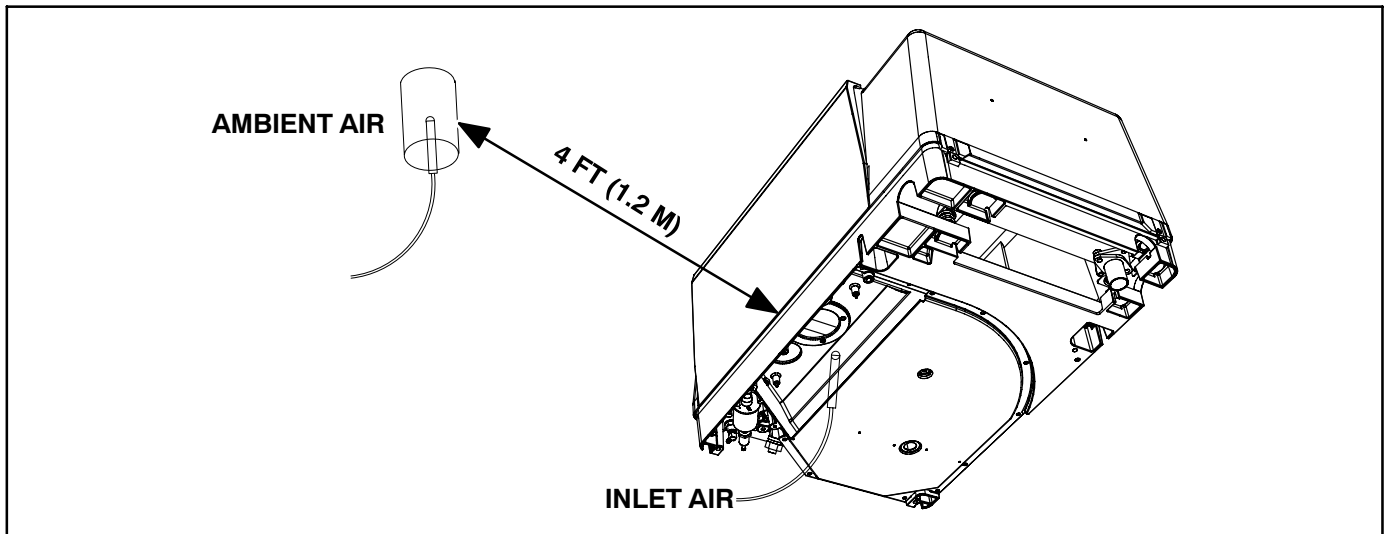

FIGURE 6-1. THERMOCOUPLE LOCATIONS FOR HOT AIR RECIRCULATION TEST
- A. Measure genset inlet air temperature with one thermocouple tied in the middle of the inlet air grille (Figure 6-1).